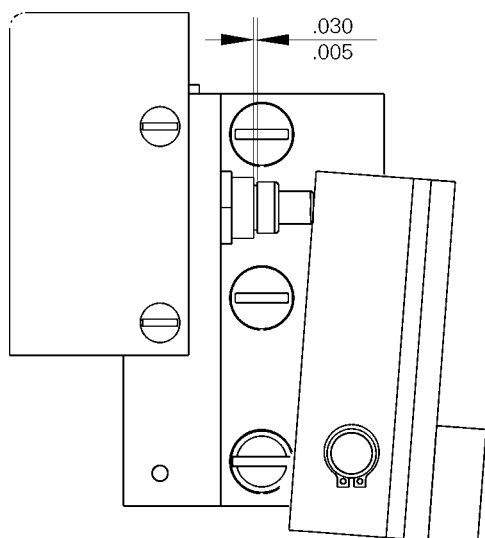

Figure 8-20. Motor cut-off switch adjustment.
3. Adjust the cut-off switch as illustrated in Figure 8-20: